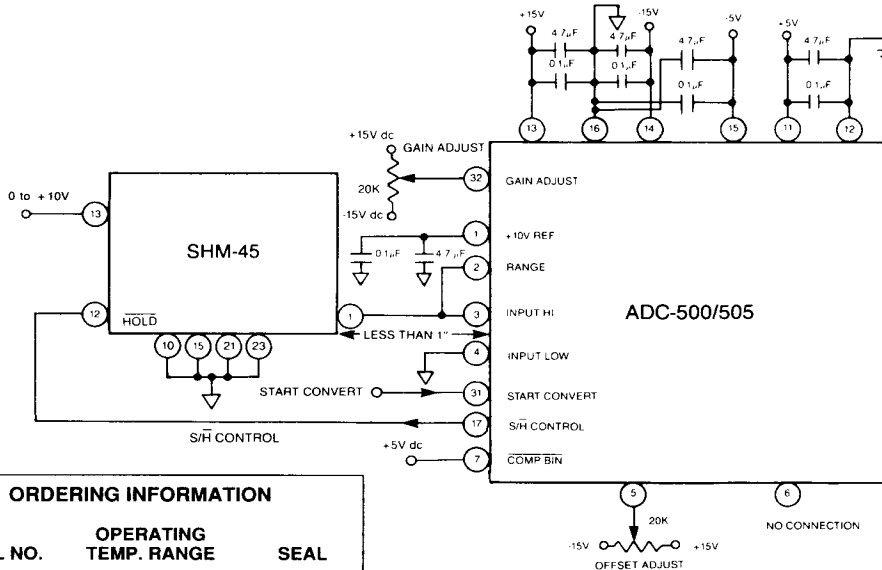

Figure 3. ADC-SHM Connection Diagram
- Requirements for ± 2.5 V inputs can be satisfied using DATEL's AM-1435 amplifier in front of the SHM-45/ADC-500 configuration, shown in Figure 3, at the appropriate gain. The SHM-45's gain of 2 mode allows 0 to +5V or ± 5 V input ranges.
1. Connect the converter per Figure 3 and Table 2 for the appropriate full-scale range (FSR). Apply a pulse of 50 nanoseconds minimum to the START CONVERT input (pin 31) at a rate of 500 KHz. This rate chosen to reduce flicker if LED's are used on the outputs for calibration purposes.